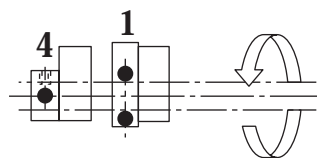

Fig.6
9. Turn handwheel (90°) counterclockwise and check position of eccentric screws "1-4".(Fig.6)